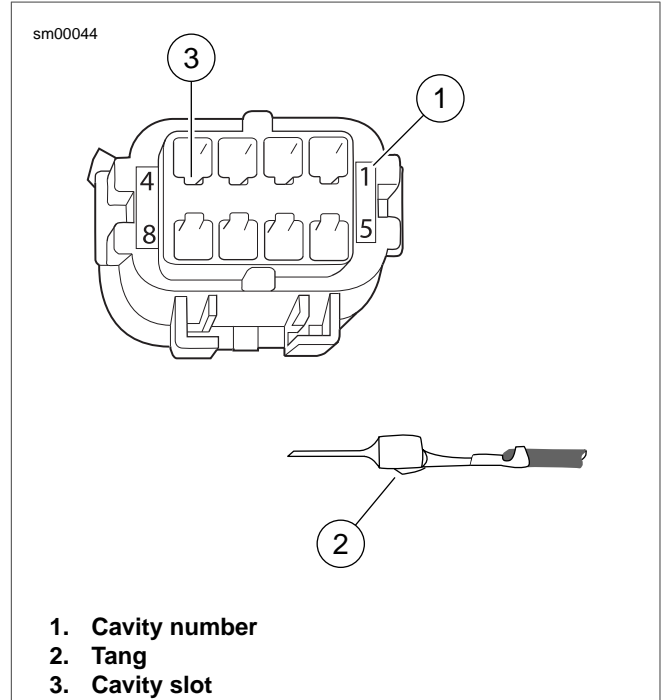

Figure A-39. Molex Connector: Pin Cavities and Wire Terminal
1. See Figure A-39. From the wiring diagram, match the wire color to its numbered terminal cavity.